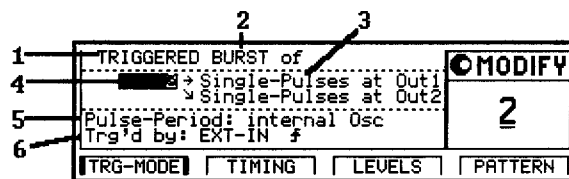

Figure 3-3. Typical TRG-MODE screen
- Select between Single and Double-pulses per pulse-period for each OUTPUT (See **3** in Figure 3-3):
- If the HP 81106A PLL/External clock is fitted, select the pulse-period source (See **5** in Figure 3-3):
- Select the number of pulse-periods per burst in the range 2 – 65536 (See 4 in Figure 3-3).
- Select between Single and Double-pulses per pulse-period for each OUTPUT (See 3 in Figure 3-3):
- If the HP 81106A PLL/External clock is fitted, select the pulse-period source (See 5 in Figure 3-3):
- Select between RZ and NRZ data pulses for each OUTPUT (See **3** in Figure 3-3):
- Single pulse-periods are triggered by (Trig'd by) an active edge at the selected arming source (See 6 in Figure 3-3):
- A burst of pulse-periods is triggered by (Trg'd by) an active edge at the selected arming source (See 6 in Figure 3-3):